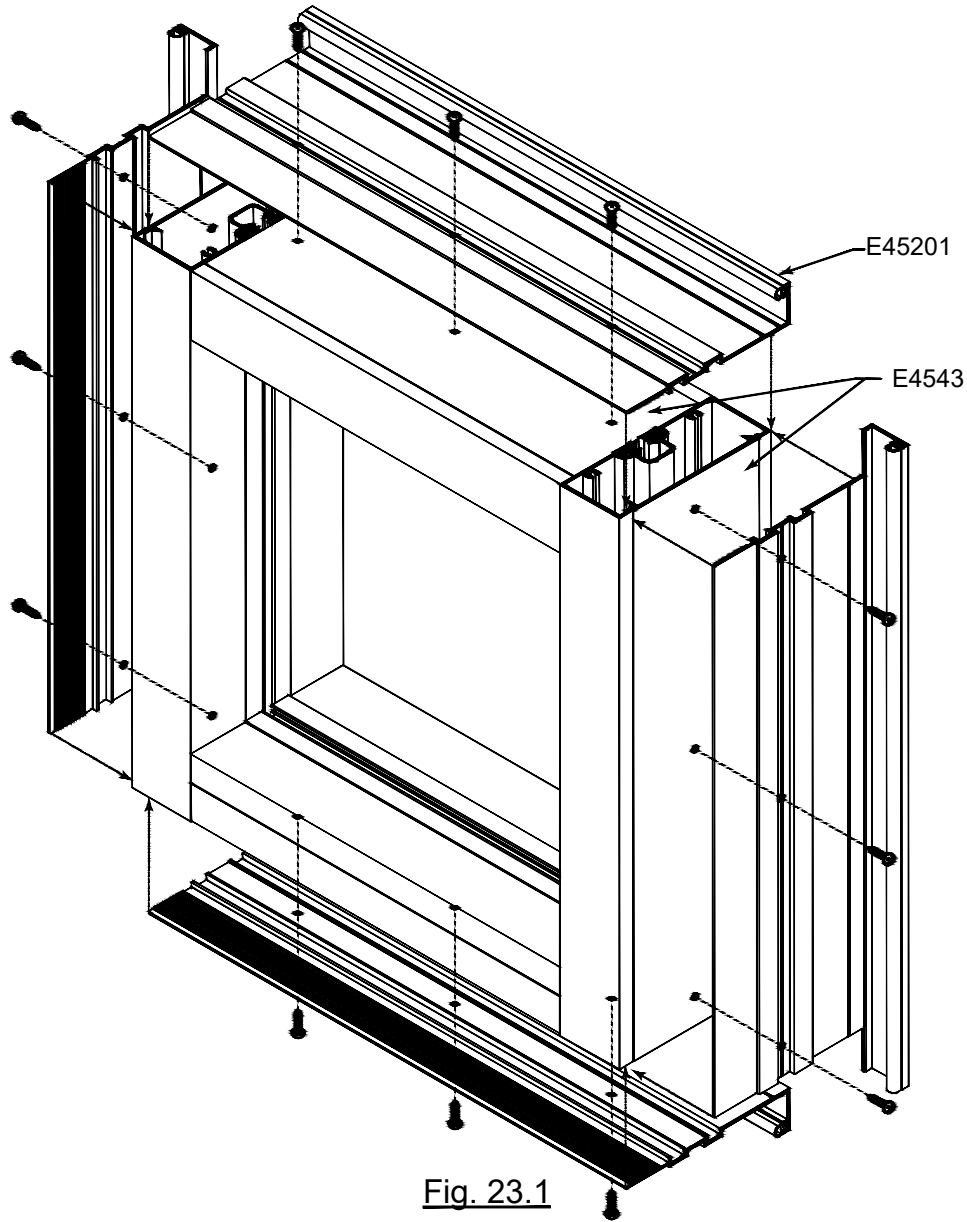

Fig. 23.1
- A. Attach E45201 to the perimeter E4543 or P1745. SEE Fig. 23.1